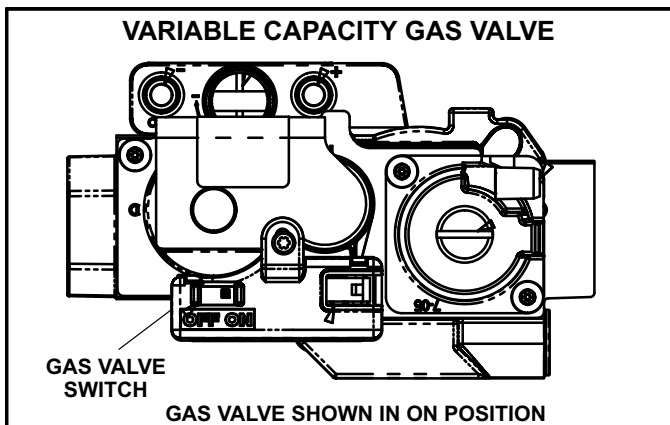

FIGURE 2
Operating the Gas Valve (Figure 2)
- 6 - Move the gas valve switch to the **OFF** position. See figure 2.
- 8 - Move gas valve switch to **ON** position. See figure 2.